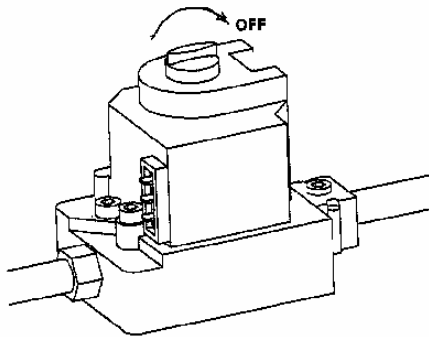

Fig. 7
5. Turn the gas control knob  clockwise to the 'OFF' position. (Fig. 7)